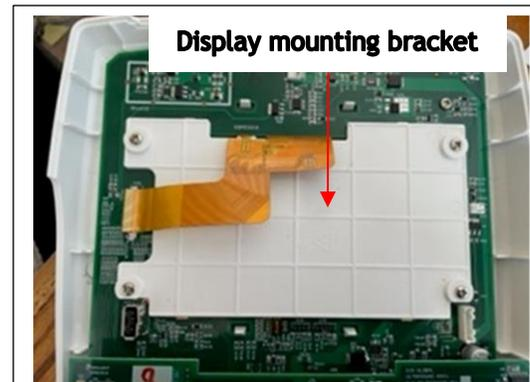

Figure 7.21
8. Disassemble LCD bracket from the Control PCBA, See Figure 7.21.